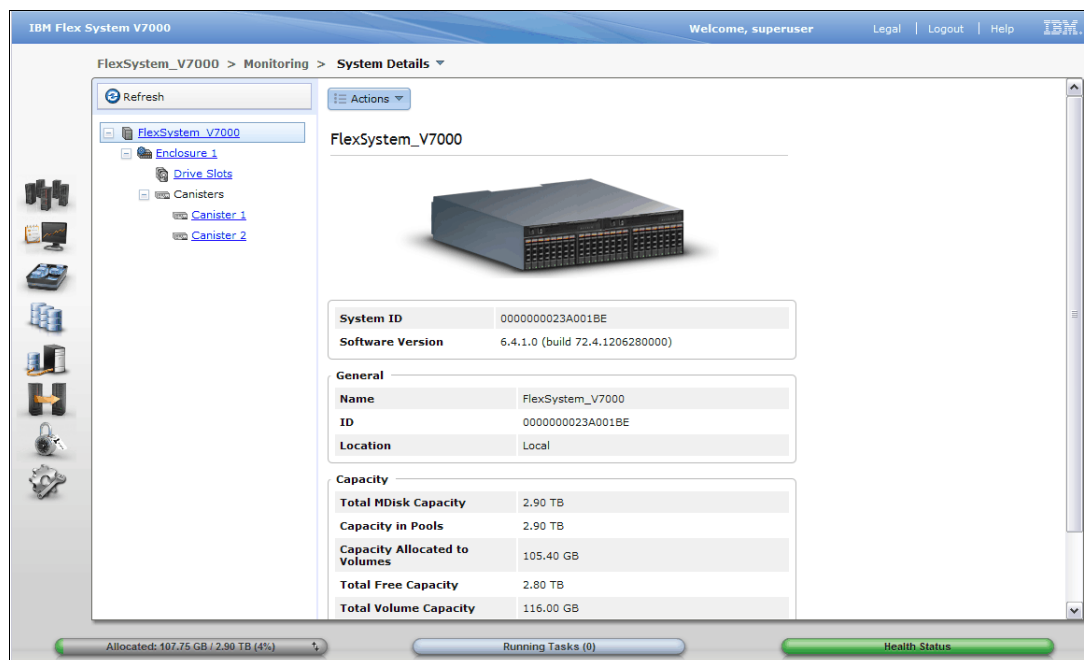

Figure 4-23 System details view in management GUI
12. IBM Flex System V7000 Storage Node initial configuration is complete and the cluster is up and running (Figure 4-23).